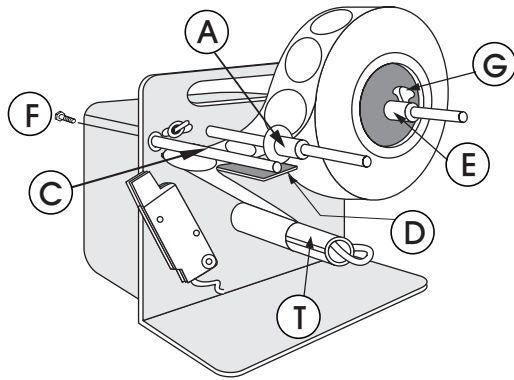

Figure 3
8. Proper Dispensing: label releases from the carrier paper and the front edge of the label hits the trigger of the switch causing the motor to stop. If the edge of the label does not hit the trigger, adjust the direction of the label advance. Loosen the socket head cap screw (F) with the larger Allen wrench included and tilt (D) up or down until the label correctly hits the trigger. Tighten screw. (See Figure 3)